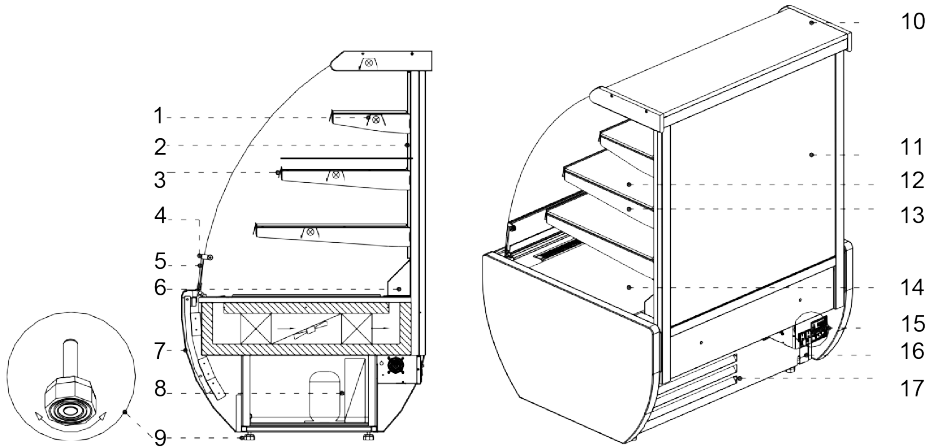

Fig.1 Layout of unit "Jamaica W OPEN"
- Place the unit on a level and sufficiently solid surface, and then level it with the feet Fig.1/9 (p.3)